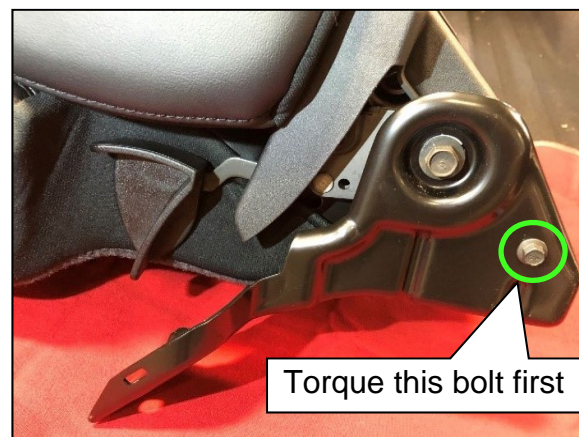

Figure 14
15. Torque the rearmost outboard seat cushion pivot riser bolt to specification (Figure 14).